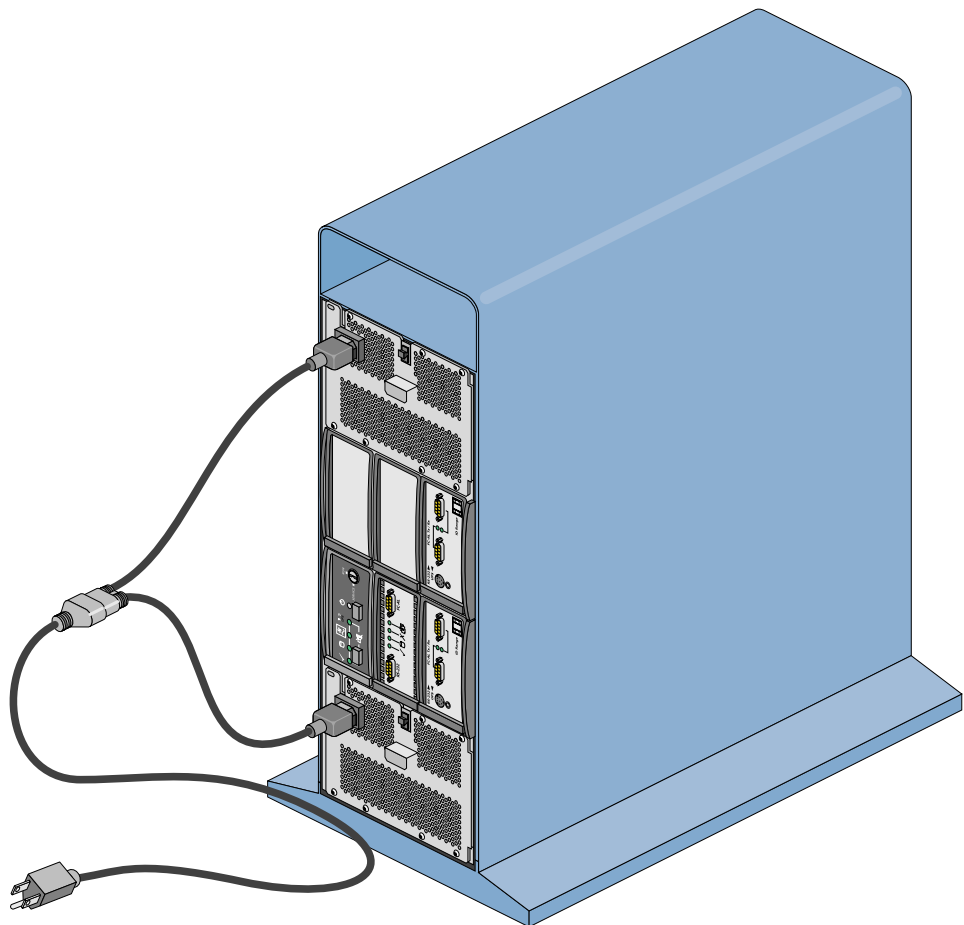

Figure 2-1 Bifurcated Power Cord for the Tower
- One bifurcated power cord, shown in Figure 2-1; this cable gives you the advantage of a single point of disconnect.